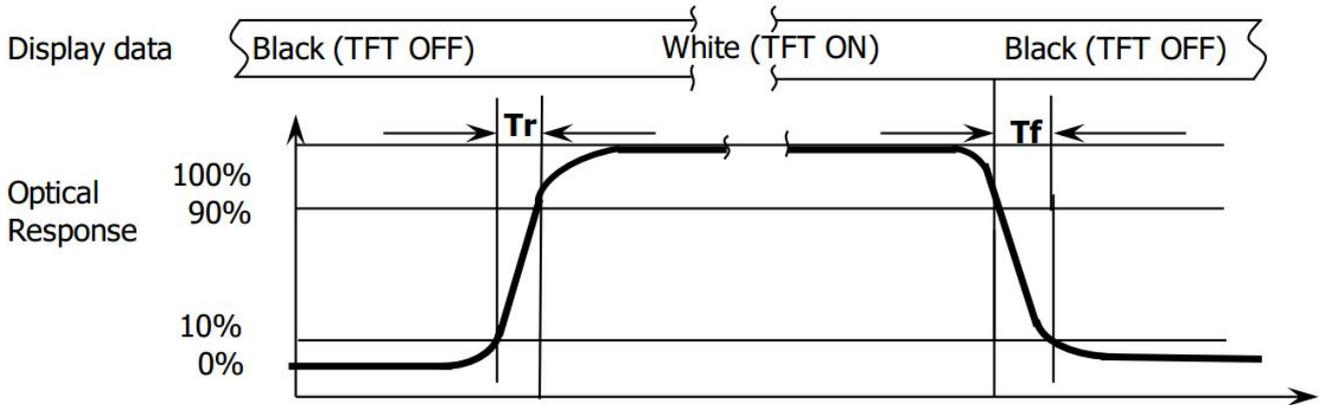

FIG.2. Measuring method for Contrast ratio, surface luminance, Luminance uniformity, CIE (x, y) chromaticity
Note1. Contrast Ratio(CR) is defined mathematically by the following formula. For more information see FIG 2.:
备注1. 对比度是由以下公式计算所得。详见FIG 2。
Note2. Surface luminance is the LCD surface from the surface with all pixels displaying white. For more information see FIG 2.
备注2. 表面亮度是在显示白色画面时，测试的亮度值，详见FIG 2。
Note3. The uniformity in surface luminance (δ WHITE) is determined by measuring luminance at each test position 1 through 5, and then dividing the maximum luminance of 5 points luminance by minimum luminance of 5 points luminance. For more information see FIG 2.
值除以最大值。详见FIG 2.。
- Note5. CIE (x, y) chromaticity ,The x,y value is determined by screen active area position 5. For more information see FIG 2.
备注5. CIE(x,y)色坐标 测试点为显示屏中心点P5。详见FIG 2.。